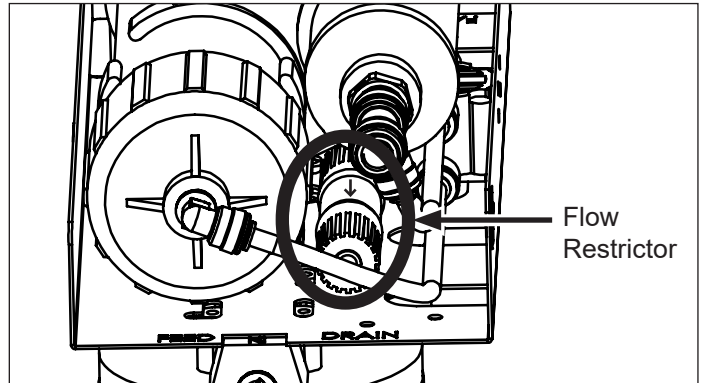

Figure 2. Flow Restrictor Location
1. Identify the flow restrictor located on the reject water tubing. See Figure 2.